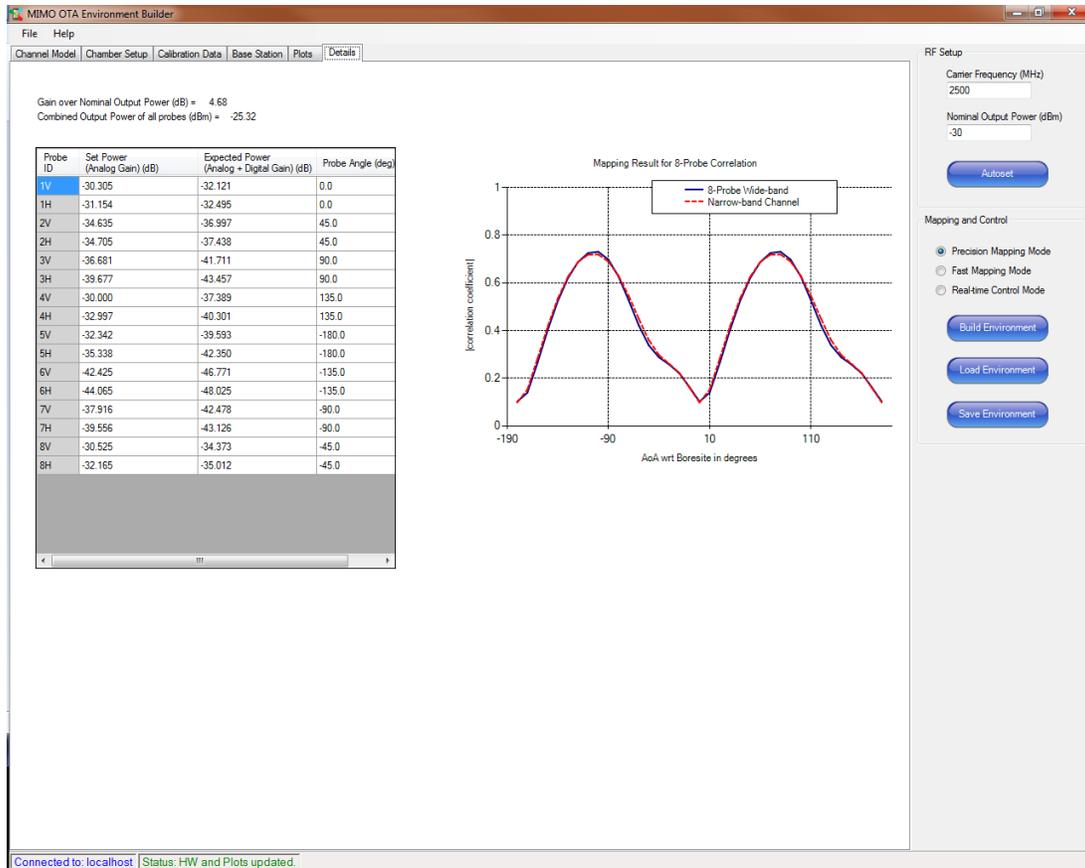

Figure 3-25: Details Tab
2. Select the *Details* tab, as shown in Figure 3-25. This tab displays information on the set and expected power levels at each VR5 output and each antenna probe.